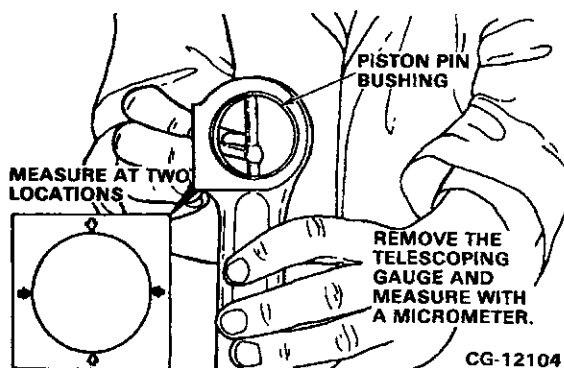

Figure 6.22. Check Piston Pin Bushing I.D.
- a. Using a telescoping gauge and an outside micrometer, measure the pin bore at two locations and record the readings. Refer to **Figure 6.22**.
- a. Subtract the piston pin O.D. from the piston pin bushing I.D. measurement. Refer to Figure 6.22.